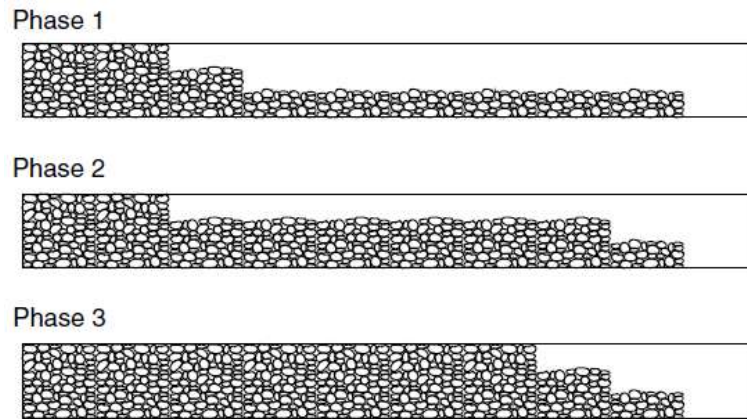

Figure 2 The filling sequence of gabions in lifts to limit diaphragm deformation (Maccaferri)
- 4.3.3. Figure 2 below shows how consecutive layers of gabions in a structure are joined then filled in lifts to limit the deformation of the diaphragms by the weight of the stone (refer to 8.5).